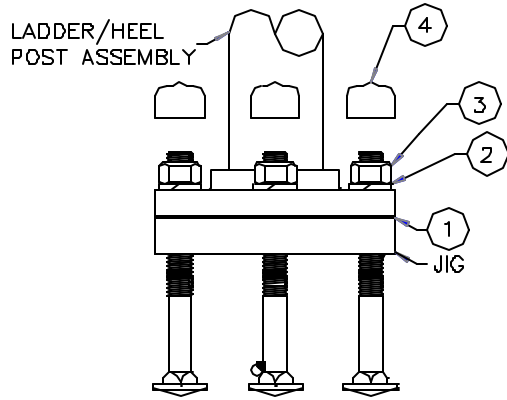

FIG. 7
- 5 Install Ladder Assembly and Heel Post Assembly with hardware to respective jigs according to Fig. 7. Make sure gaskets are in place. Hand tighten only.